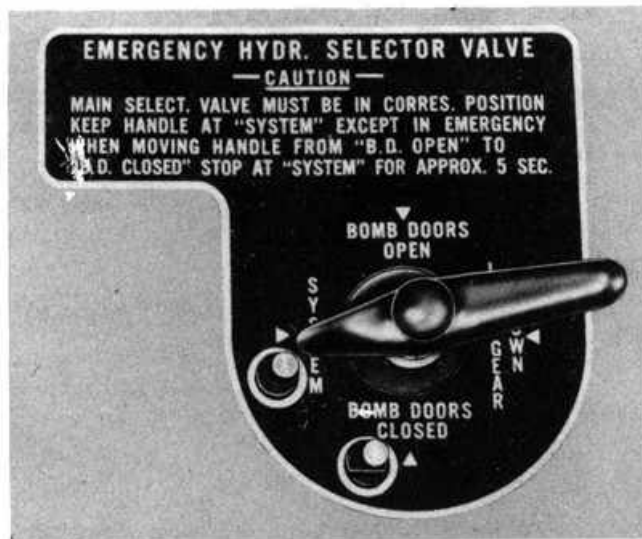

Figure 29—Emergency Hydraulic Selector Valve Control
(b) Emergency hydraulic selector valve control (figure 29)—“BOMB DOORS OPEN” position.
(d) If the bomb bay doors still do not open, move the emergency hydraulic selector valve control (figure 29) to “BOMB DOORS OPEN” position and actuate the hand pump.
(2) Emergency hydraulic selector valve control (figure 29)—"LANDING GEAR DOWN" position.